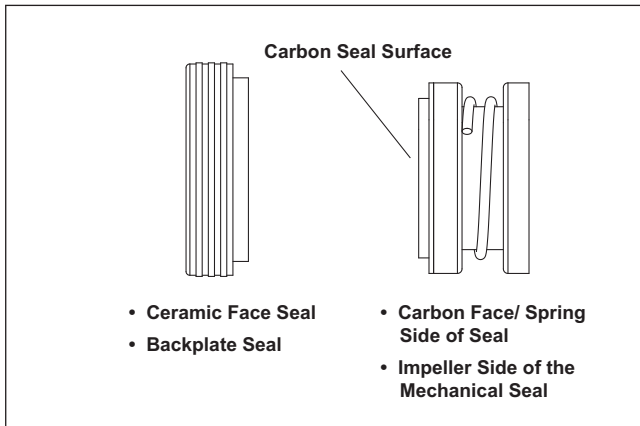

Figure 8. Replace the Mechanical Seal
1. Press the new carbon face seal half (see Figure 8) on the motor shaft using a twisting motion. Make sure the carbon surface is facing toward the ceramic ring in the backplate. See Section 6.2.4 for seal replacement procedure.
2. Remove the carbon face seal half from the motor shaft. Refer to Figure 8. This is a spring-loaded seal. Grasp the portion of the seal closest to the impeller body and pull the seal off using a twisting motion.